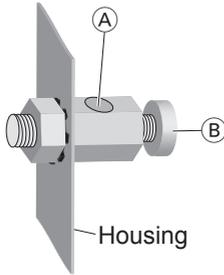

Fig. 19
- Put the earth wire (Cu 4 - 20 mm2) into the hole (A) of the earth connection terminal on the back side of the head-end station and fasten the earth wire with the screw (B) (fig. 19) securely (see also page 8, fig. 4).